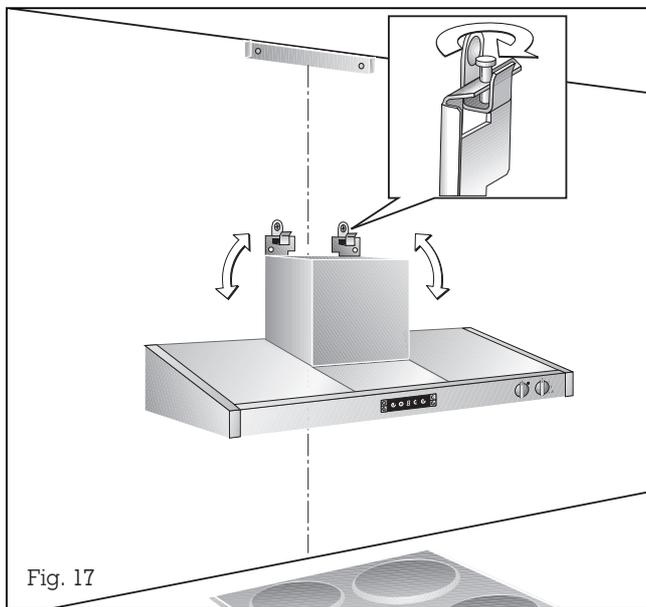

Fig. 17
- Hang the hood on the two hooks. Adjust the suspended element with the recessed head screw and align the hood using a spirit level (Fig. 17).